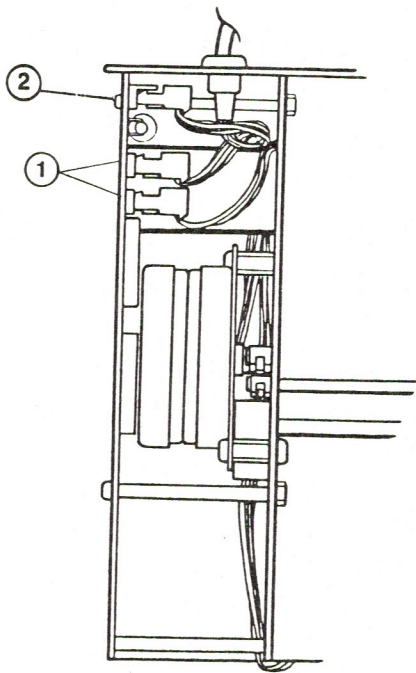

FIGURE 9
2. Locate the two motor plugs (Figure 9, #1). Put a piece of tape on the frontmost plug, to identify it.